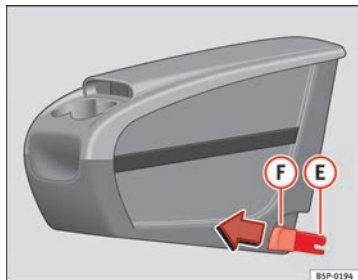
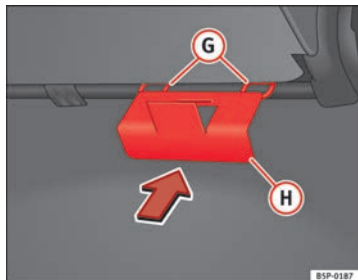

Fig. 111 Mobile storage compartment. Installation
Fig. 112 Mobile storage compartment mounting plate
- Fit the mobile storage compartment mounting plate **(H)** ⇒ fig. 112 from the inside of the vehicle, through the rear part of the seat. It should be fitted between the backrest and the seat, in the central seat area.
- Set both mounting pieces together **(E)** ⇒ fig. 111, with both mounting rings **(G)** ⇒ fig. 112 and press hard until both the clips completely connect with the rings.
- Pull each of the buttons ⇒ fig. 111 **(F)** on the clips (red buttons) forwards, until they snap out of place.